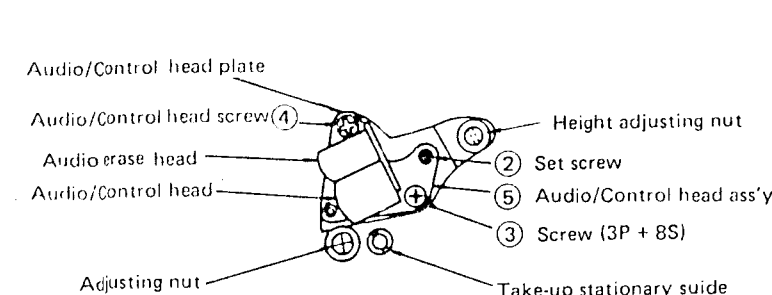

Figure 22.
1. Carry out the following adjustments with reference to figures 22 and 24, if an abnormality can be seen in the travel mode.
- 4) If adjustment is needed, adjust by means of the setscrews (2) in figure 22). Turn the screw (2) slightly.
- 7) Turn the tracking knob to its preset position and turn the adjusting nut (in figure 22) so that the envelope is at a maximum before performing adjustment of the audio/control head.